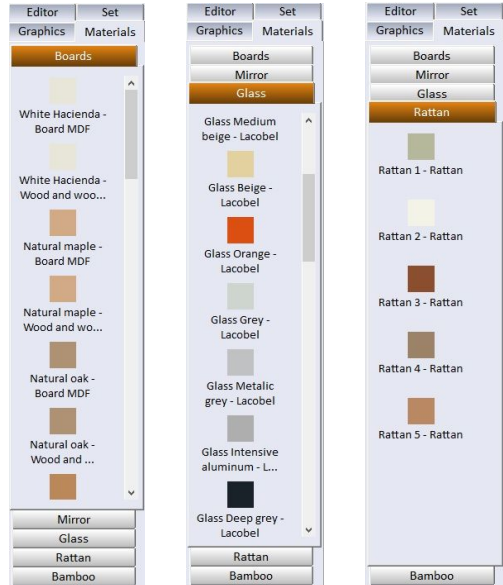

Fig. 67 - Sliding door editor – 'Materials' tab - various types of materials
- The last tab in the front editor is **'Materials'** (Fig. 67). There are several types of materials available here: **'Boards', 'Mirror', 'Glass', 'Rattan', 'Bamboo'**. To apply them to the fronts, use the *'drag and drop'* method: